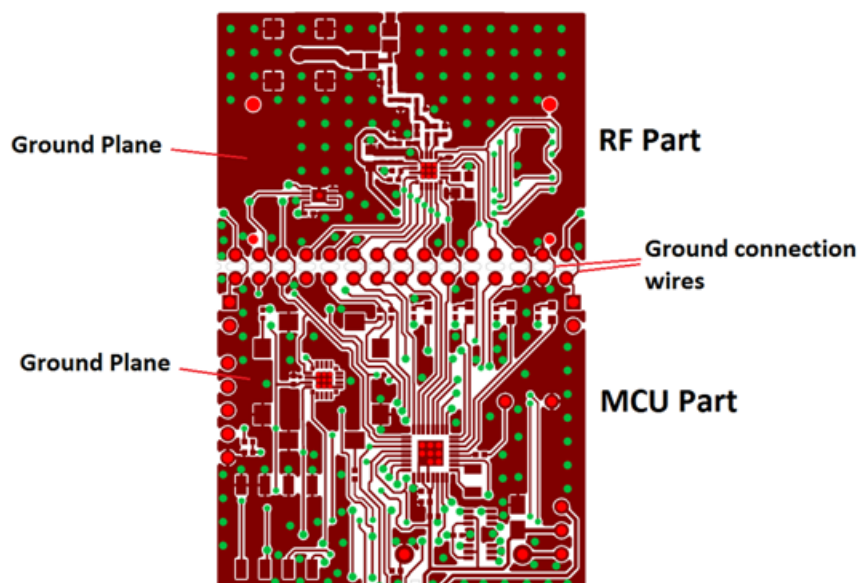
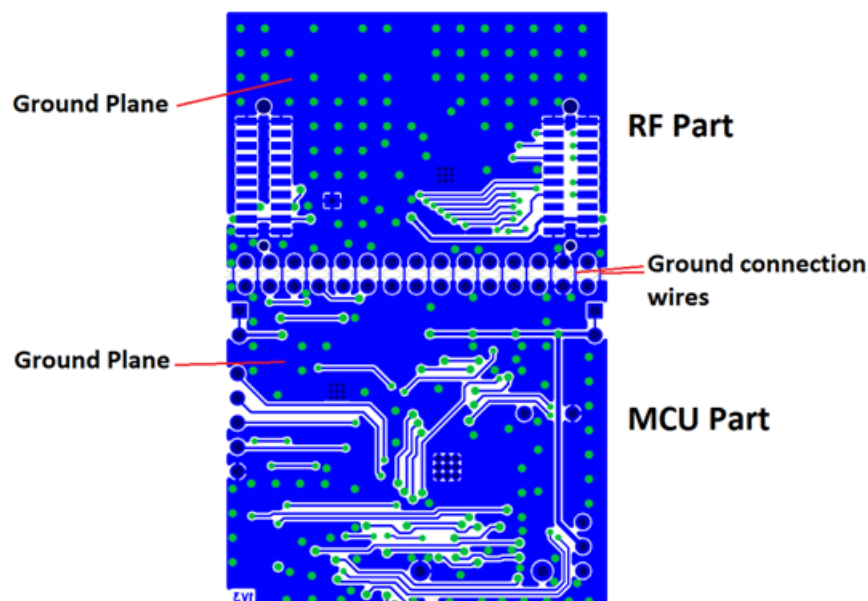

Figure 8. Ground Connection between the RF and MCU Parts—Top Layer
Figure 9. Ground Connection between the RF and MCU Parts—Bottom Layer
- The Si4455-LED-xxx (Si4455CLED-xxx) development boards (RFStick solutions) can be optionally broken in two along the connector so that the RF Part can be used as a pico board. Due to this option, the developer must ensure that the ground planes of the RF and MCU sections are connected well as possible to each other. Figure 8 and Figure 9 show this solution for the Si4455-LED-434 (Si4455CLED-434) development board. The top and bottom layers are shown, respectively. As shown in Figure 8 and Figure 9, there are as many connection wires as possible between the two parts to minimize the parasitic inductance in the grounding between the two stages.